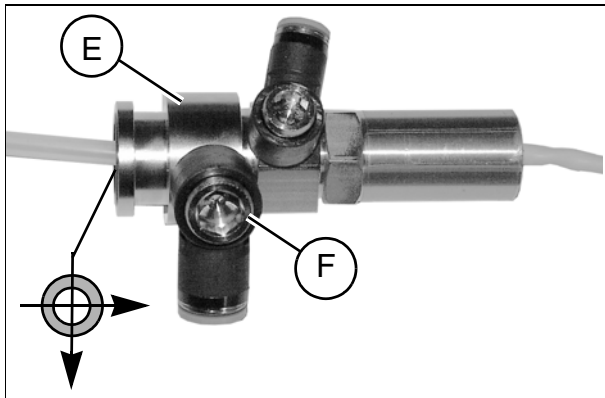

Fig. 25
- Remove the front bracket connection (F/Fig. 25) on the water supply by removing the screws.
- Remove the front part (E/Fig. 25) of the water supply by removing the screws.
- Puncture the tubing with a needle (app. 1 mm) twice at this point (</Fig. 25).
- Insulate the bracket connection of the water supply (F/Fig. 25) just removed, i.e. attach new teflon insulation tape with the screws; when doing this do not block the opening to the pressure sensor.